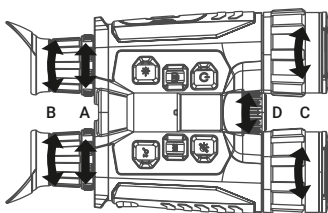

FIGURE 2-5. FOCUS ADJUSTMENT
5. Adjust the interpupillary distance by moving the eyepieces (Fig.2-5, A) farther or closer to each other.
6. Rotate the diopter adjustment rings (Fig.2-5, B) until the on-screen display (OSD) text or image is clear. Once completed, diopter adjustment will no longer be needed again until the device is used by a new user.
7. Point the device towards the target of the view. Bring the object into focus by rotate the objective focus rings (Fig.2-5, C).
8. In the optical NIGHT, GREEN, YELLOW or AUTO mode slightly rotate the IR focus (Fig.2-5, D) to adjust the beam angle of the infrared light. The broader the beam angle is, the more spread-out but less intense the light will be.